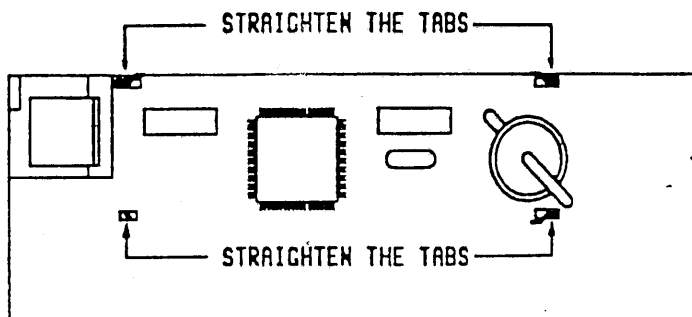

FIGURE 5
23. Straighten the tabs that hold the LCD assembly to the Control board. Carefully pull the LCD assembly off the Control board (do not break the flex cable). **Figure 5**